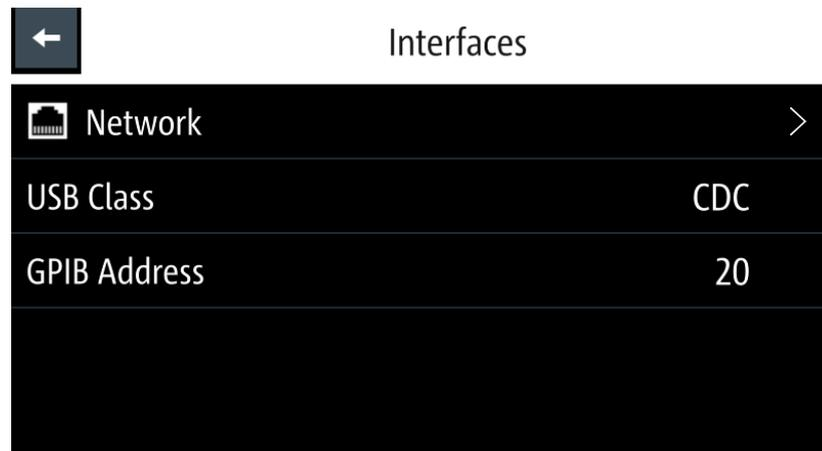

Figure 6-42: Interfaces dialog
1. Select "Network" from the Figure 6-42.